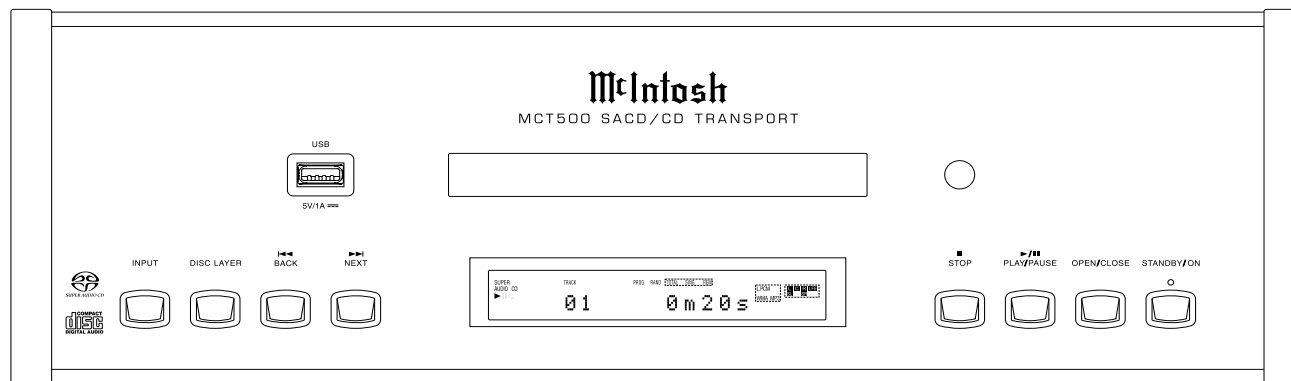

Figure 2
1. Press the SHIFT Push-button and then the RANDOM Push-button twice to access the Program Mode. Refer to figures 2, 24 and 27.